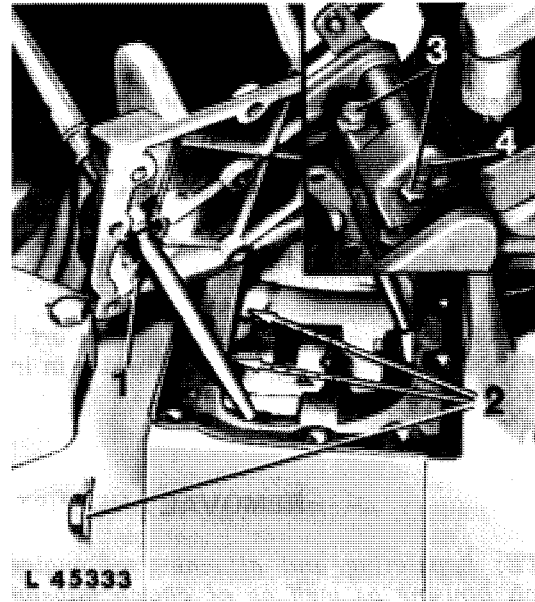

Fig. 7 — Removing Gear Shift Cover
*On tractors equipped with HIGH-LOW transmission:* Remove screws (see 3, fig. 7). Disconnect connecting rod from lever shaft and remove cover 4 complete with lever shaft and control arm.
*On tractors equipped with independent PTO:* Before removing cover (see 4, fig. 7), move PTO shift lever in engaged position. After cover 4 has been removed, do not move PTO shift lever otherwise lock balls and springs will drop out of cover.